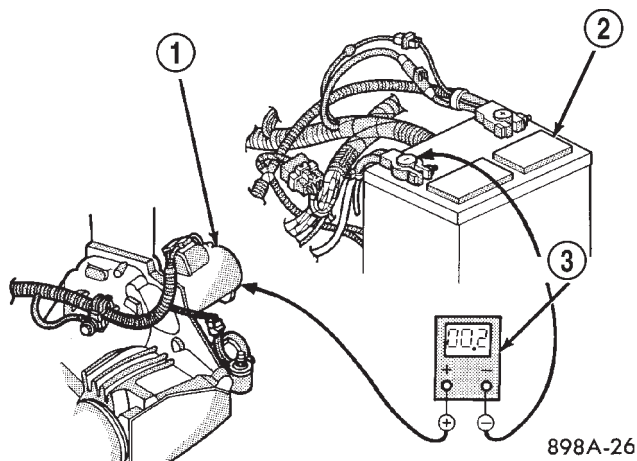

Fig. 8 Test Starter Ground - Typical
(5) Connect the positive lead of the voltmeter to the starter housing. Connect the negative lead of the voltmeter to the battery negative terminal post (Fig. 8). Rotate and hold the ignition switch in the Start position. Observe the voltmeter. If the reading is above 0.2 volt, correct the poor starter to engine block ground contact.